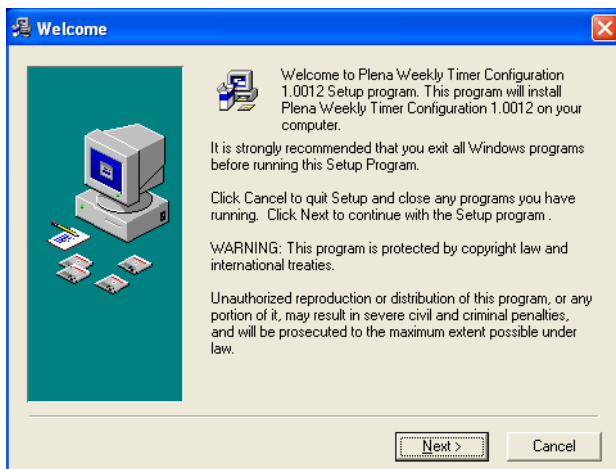

figure 8.1: Welcome
- 1 Put the Plena CD-ROM in the CD-ROM drive of the PC. The CD-ROM starts automatically and a window similar to the one in figure 8.1 will appear. If the CD-ROM does not start automatically: